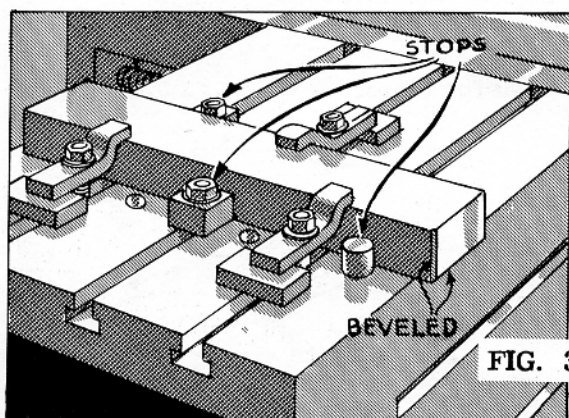

FIG. 308
14. Place a suitable stop in front of the work at the right and another in the rear of the work at the left (Fig. 308) as an additional precaution against shifting of the work during the cut.